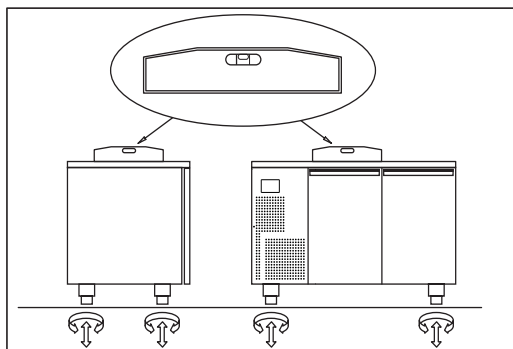

Fig.5
- position the refrigerated table using a level with possible adjustment of the feet of the metal base (Fig. 5 )
- position the refrigerated table as described above (Fig. 5)